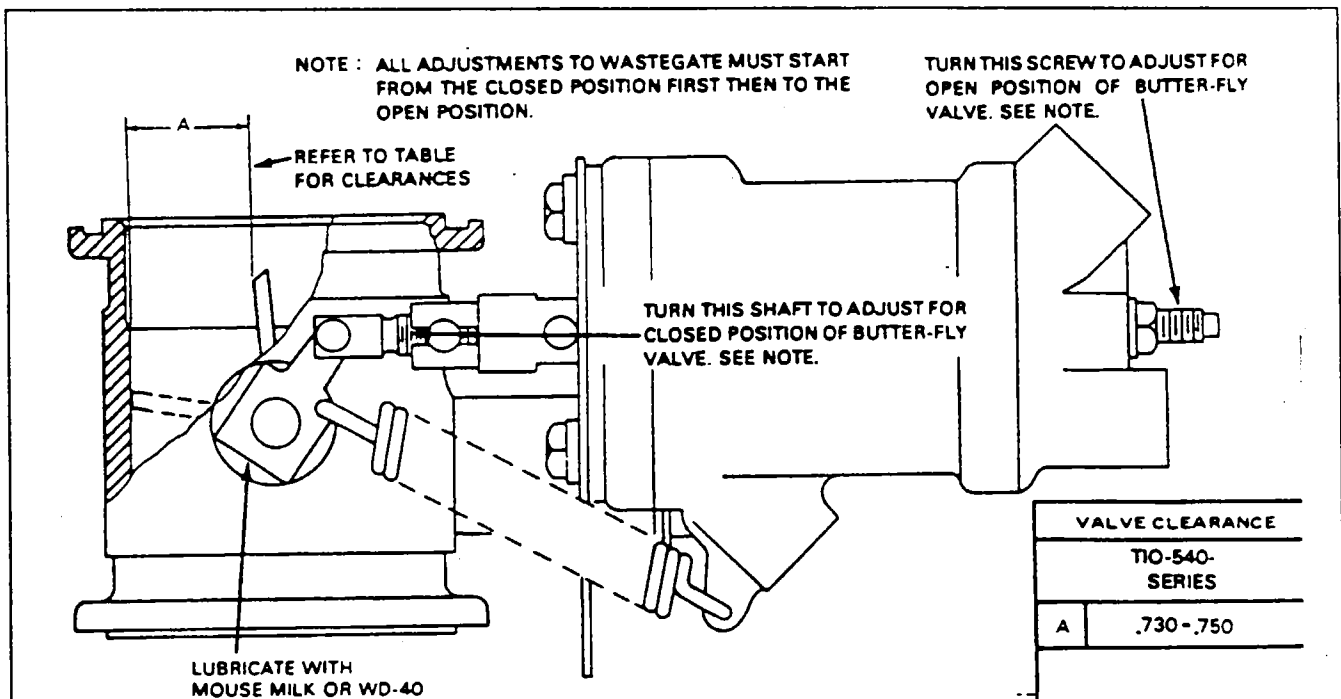

Figure 81-3. Exhaust Waste Gate
EXHAUST WASTE GATE VALVE SETTINGS. (Refer to Figure 81-3)
The butterfly valve in the exhaust waste gate assembly is set to a predetermined open clearance. A table of this clearance as given in Figure 81-3. With 50-60 psi pressure in the waste gate cylinder, adjust the closed position of the valve so that the waste gate valve firmly contacts the bore in the closed position. After adjusting the closed position and with no pressure in the waste gate cylinder, adjust the full open (A) position by adjusting the stop screw to provide the specified clearance between the valve and the side of the housing with backlash taken up towards the open position.